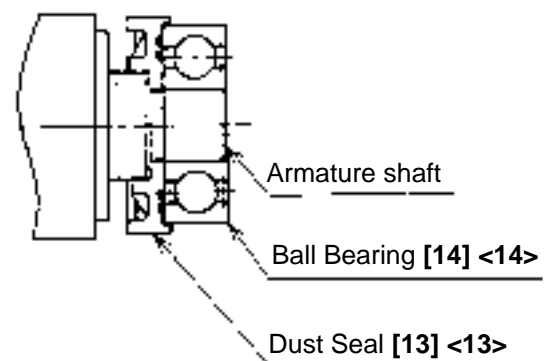

Fig. 2
- (1) Generously lubricate the teeth of Gear [17] <17> and Pinion [6] <6> with grease. Rub grease onto the teeth with your fingers so that the grease reaches each tooth bottom. Note that the Gear [17] <17> and Pinion [6] <6> if under-lubricated may wear at an faster rate.
- (2) Be sure to soak the inner diameter of the Felt Packing [21] <21> with machine oil. Otherwise, its dust-sealing function will fail to work properly, resulting in an earlier damage of the Ball Bearing [20] <20>.
- (3) When replacing the Armature [9] <9> and the Ball Bearing [14] <14> on the commutator side, press inward on the Dust Seal [13] <13> while taking care of its direction until the end face of the Dust Seal [13] <13> hits against the butting surface of the Armature [9] <9> and make sure that Dust Seal [13] <13> cannot turn freely. (See Fig. 2)